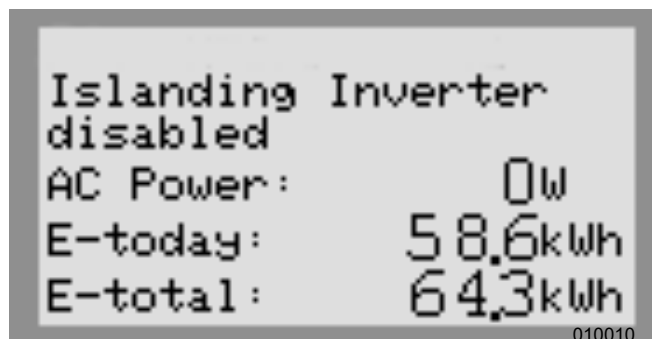

Figure 6-6. Enabling Inverter (1 of 4)
- See Figure 6-6. Use the right arrow key to scroll the inverter device page.